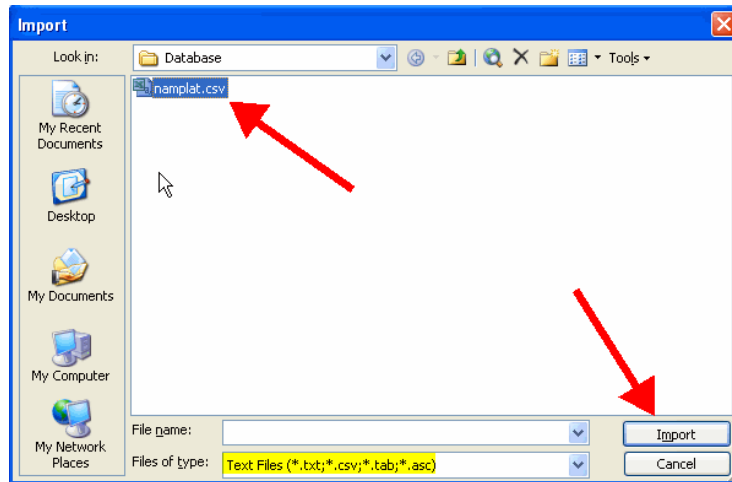

Figure 5-8
5.2.16. Change *Files of Type* to *Text Files (*.txt, *.csv, *.tab, *.asc)*. (Figure 5-8)
5.2.17. Click [**Import**].(Figure 5-8)